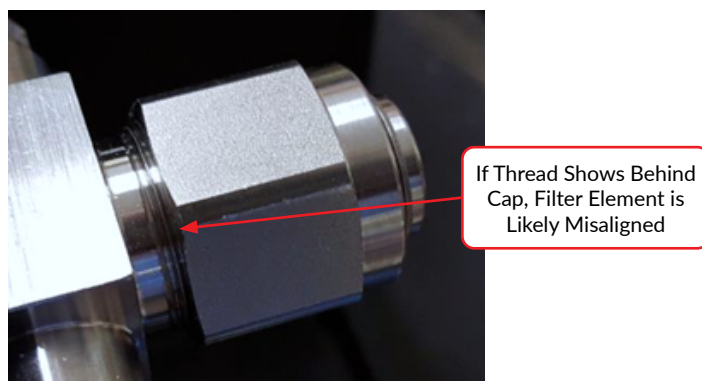

Figure D.5 Particle Filter Element Misaligned
8. Thread the filter cap onto the housing until it is finger-tight. There should be no threads showing behind the filter cap (see **Figure D.5**). If there are, the Particle Filter Element may not be properly aligned. Remove the filter cap, straighten the Particle Filter Element, and reinstall the filter cap.